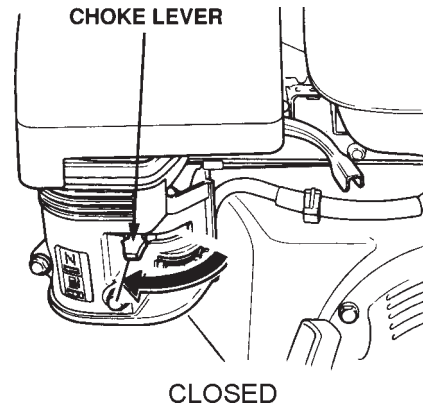

Figure 15. Engine Choke Lever (Closed)
4. Place the *choke lever* (Figure 15) in the "CLOSED" position if starting a **warm engine** or the **temperature is warm**.